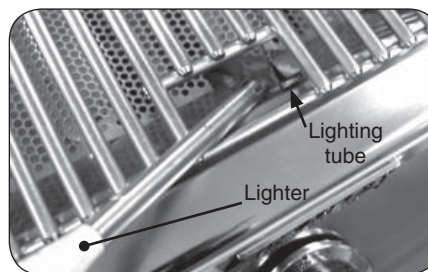

Fig. 19-2 - Manual lighting
2. Insert either a burning long-barrel butane lighter or a burning long-stem match through the cooking grid opening to the top of the lighting tube. (Fig. 19-2). For backburners, hold the flame against the surface of the backburner.
4. If the burner does not light, **immediately depress the knob and turn the valve to OFF**. **WAIT FIVE (5) MINUTES** before repeating steps 2 through 4 of the **MANUAL LIGHTING** instructions.